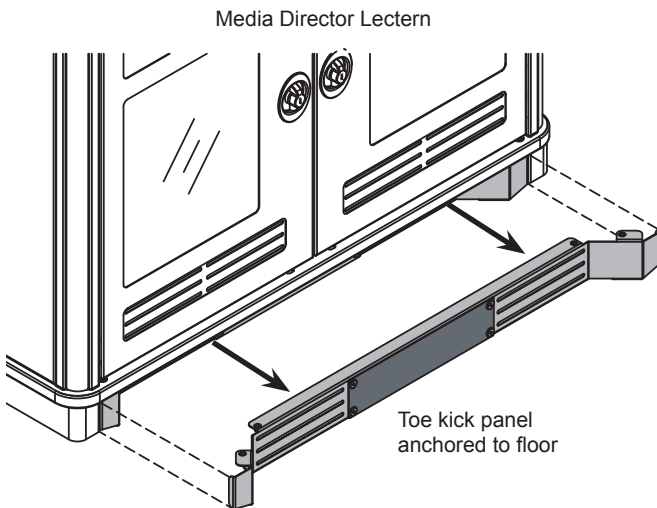

Figure 9B
5. Move lectern into position over the anchored toe kick. **Figure 9B.**
6. Align the (4) base panel mounting holes (instructor-side) with the toe kick panel mounting holes.